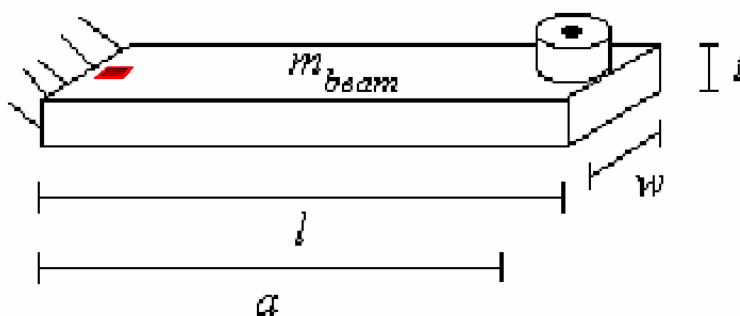

Figure B-3
*The Cantilever Beam:* Figure B-3 shows the cantilever beam we use in class.